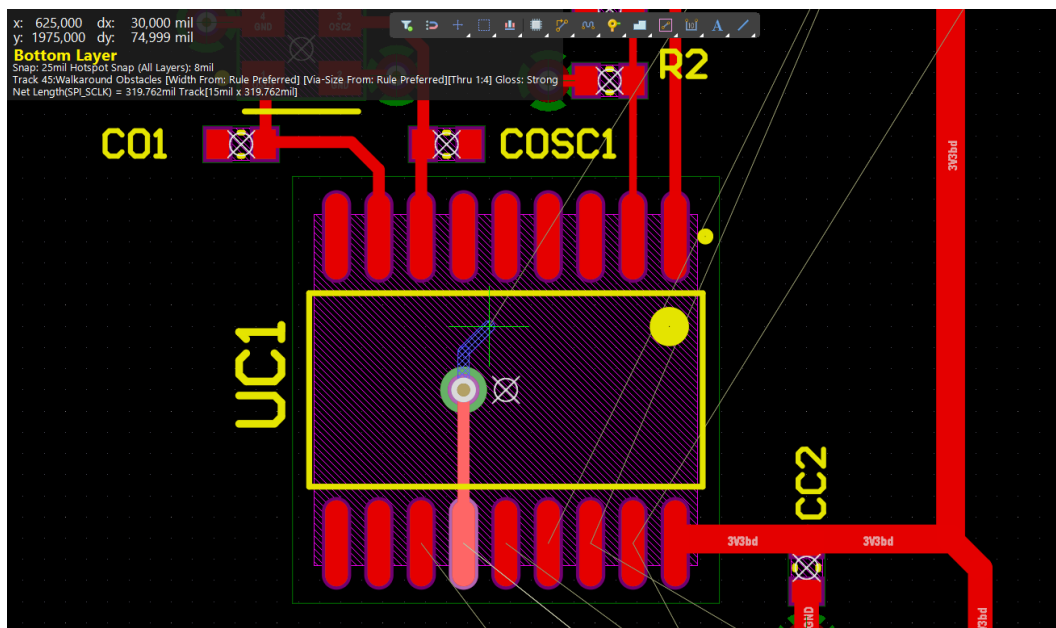

Figure 12. Changing Via Size while routing
- b) Start routing and hit the **+** key on the NumPad or press and hold **Ctrl+Shift** and spin the Mouse Wheel to have a Via on your cursor. If you do not have a NumPad, hit the **~ tilde** key (**~ tilde key** (US) or **Shift+F1** for other regions) and select **Next Layer**.
- d) Before placing the via, hit the **4** key to toggle through the three via sizes that you added in the design rule earlier. Left-click to place the via size of your choice as shown in Figure 12.